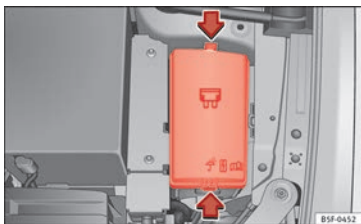

Fig. 101 In the engine compartment: fuse box cover
- Press the locking tabs to release the fuse box cover »» **Fig. 101**.